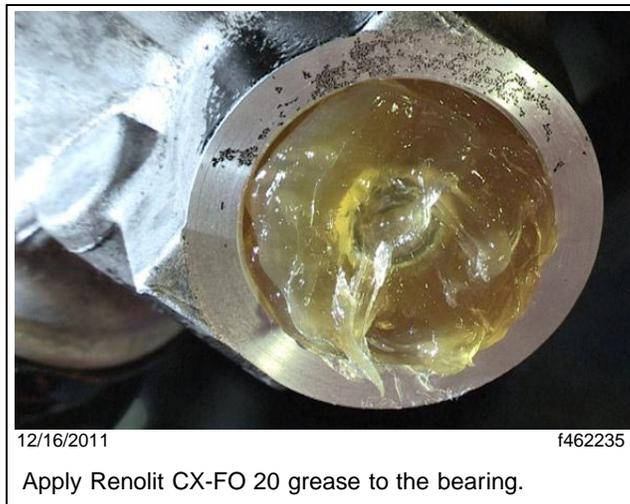

Fig. 18, Greased Bearing
1. Fill the ball bearing and hexnut to slightly above flush with Renolit CX-FO 20 grease. See **Fig. 18**.